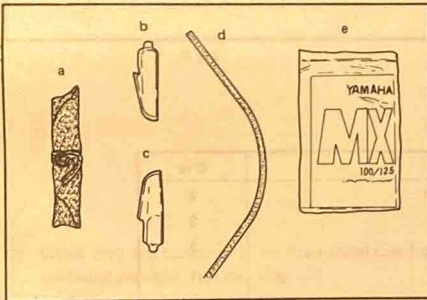
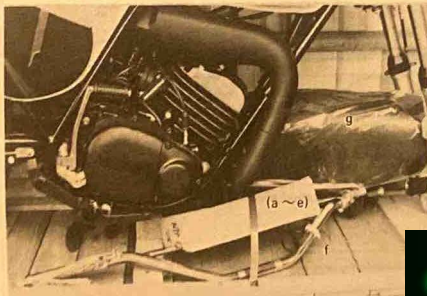

Fig. 5
Fig. 6
2. Check the parts for quantity and damage. If any parts are found damaged, replace. (Fig. 5, Fig. 6)